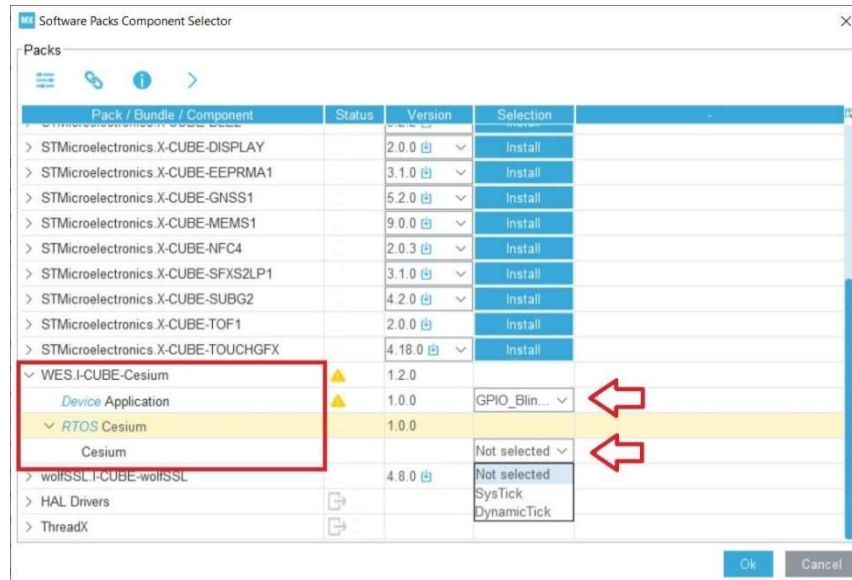

Figure 3.3 – Software Packs Component Selector
- b) Once the “**Software Packs Component Selector**” window appears, search for the “**WES.I-Cube-Cesium**” component and select which RTOS Cesium library you would like to use as shown in Figure 3.3. The user can choose between SysTick or Dynamic Tick configurations. If Dynamic Tick is selected, then additional steps will be required on the STM32CubeMX workspace, which will be explained in Section 3.3. In addition to selecting the Cesium RTOS library, the user needs to add the “**GPIO_Blinky**” application code. The application code contains everything the RTOS needs to initialize, start, and create the first task. If the “**GPIO_Blinky**” application code is not selected, then the user will need to manually initialize Cesium RTOS.